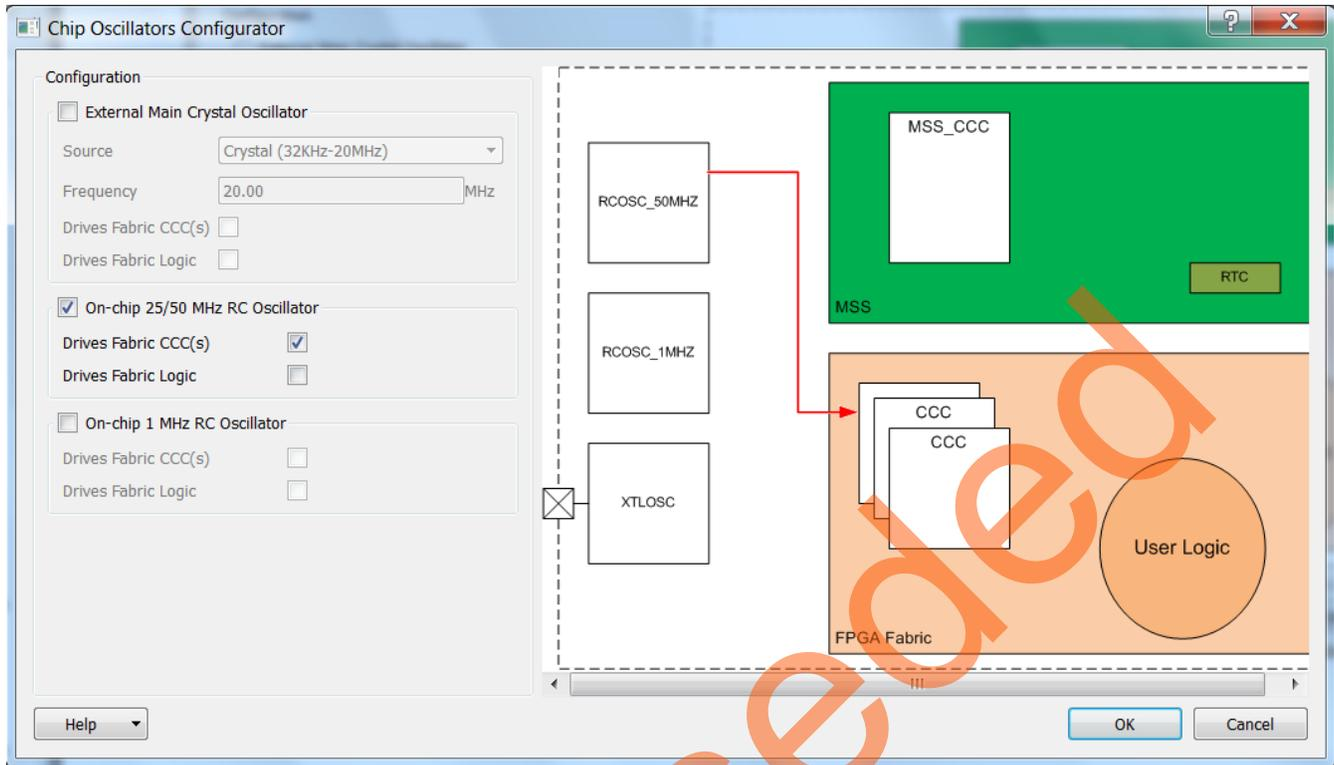

Figure 22. Oscillator Configuration
5. In the **Catalog** tab, under **Clock & Management**, drag the **Chip Oscillators** IP onto the **Access_EXT_SDRAM** tab. Double-click the **OSC_0** instance to open up its configuration window. Configure the following items, as shown in Figure 22: